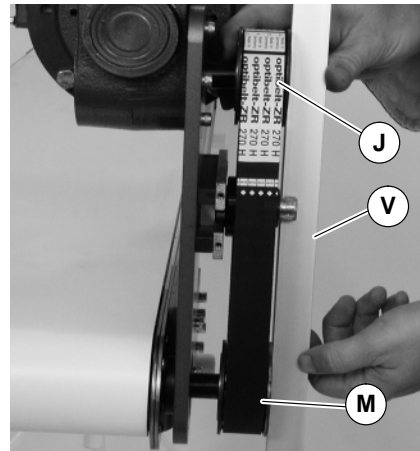
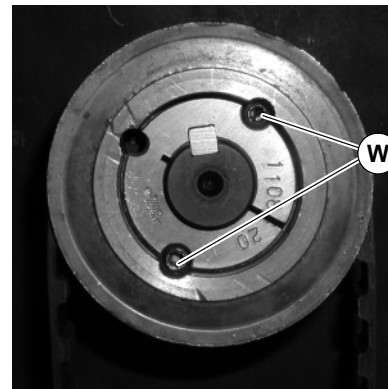

Figure 8
Figure 9
- Using a straight edge (V of Figure 8), align driven pulley (M) with drive pulley (J). Tighten driven pulley taper-lock screws (W of Figure 9).